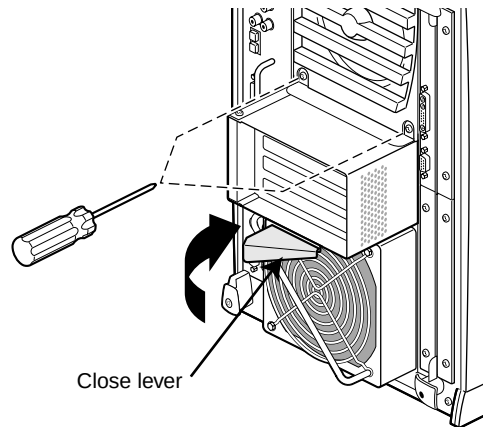

Figure 10 - PCI Module Installation
- 2.) Push the release lever in to close (latch). Lever located along the bottom edge of the module (Figure 10).
- 3.) Tighten the two captive screws (Figure 10).